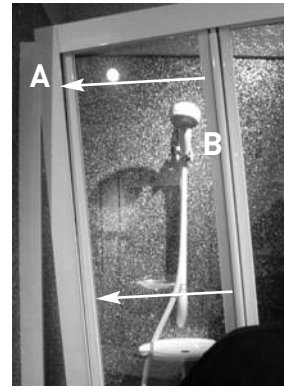

Figure a5
⑤ Assess the access required and decide left or right hand opening. Slide the Bi-Fold Door (B) following the arrows (Figure a5) into either Wall Profile channel (A) that is screw fixed to the wall. If you have selected a glass design it will be external on this product.